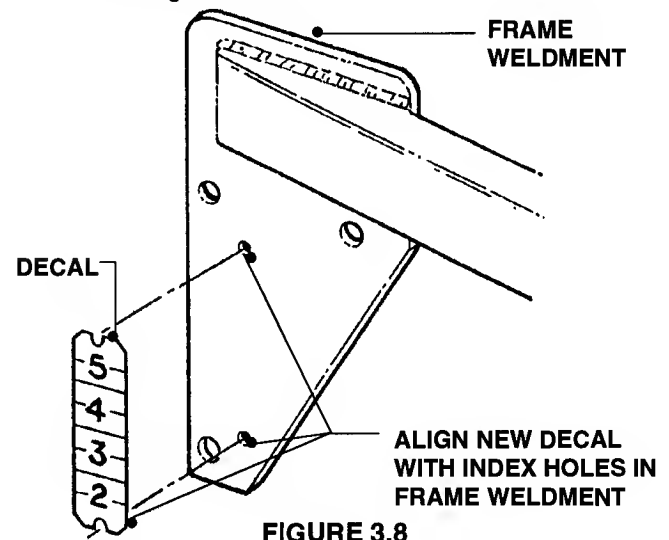

FIGURE 3.8
- Apply a new "Height-of-Cut" Decal (Part No. 2-9295). See Figure 3.8.